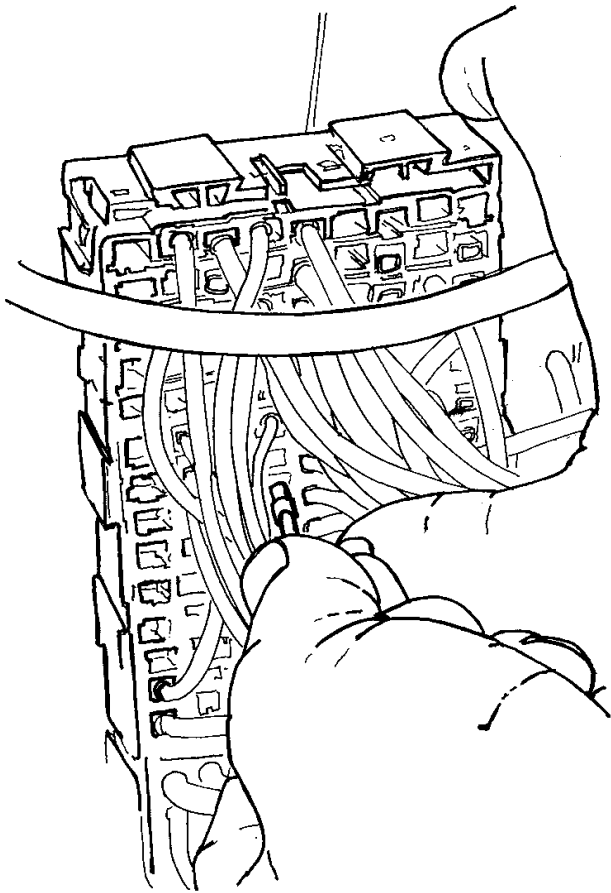

Figure 14 Insert Wire In Fuse Block
15. Route the new harness wire under the fuse block of the P.D.C. (Figure 14). Orient the wire the same way as the E.C.M. terminal. **This wire can be installed backward. Review preceding Note.**
16. Insert the new harness wire into fuse block cavity F1–F3 (second space up from the (purple color) E.C.M. wire (Figure 14). It is important that this wire be in the correct location. From the top, the correct location is on the second row, two spaces down. Tug gently on the wire to assure that the wire is completely seated.